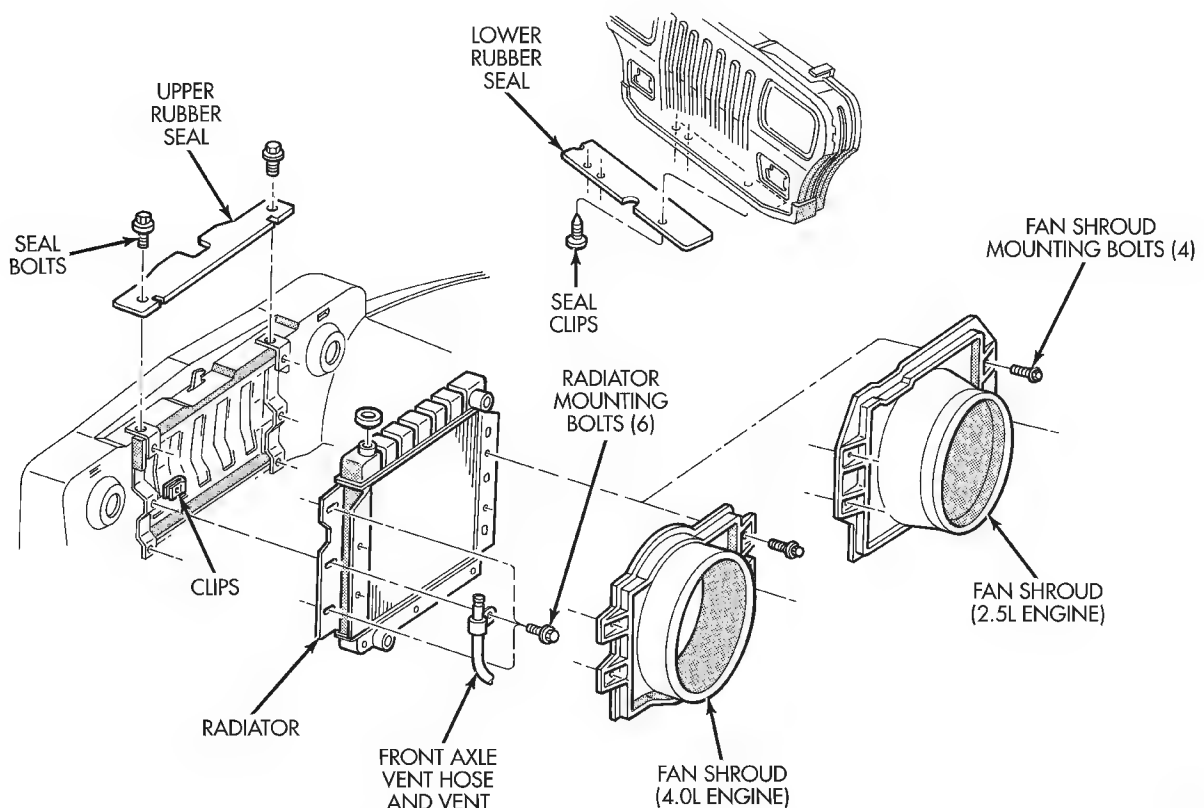

Fig. 35 Radiator—Remove/Install—YJ Models
- (5) Disconnect coolant reserve/overflow tank hose from radiator.
- (6) Remove the four fan shroud mounting bolts (Fig. 35). On some models the power steering fluid reservoir tank is attached to the side of the fan shroud. Tie the reservoir back to prevent spillage. Position the fan shroud back over the fan blades.
- (7) If equipped, disconnect and plug automatic transmission fluid cooler lines.
- (8) Remove six radiator mounting bolts. Position the front axle vent hose (Fig. 35) to the side.
- (9) Lift radiator straight up and out of vehicle taking care not to damage radiator fins.
When removing radiator, note position of the rubber seals located on the top and bottom of radiator (figure 35 on certain models only). To prevent possible overheating, these seals must be installed to their original positions.
- (1) Position the radiator. Install and tighten the six mounting bolts (Fig. 35) to 8 N·m (72 in. lbs.) torque.
- (2) Close radiator draincock.
- (3) Position fan shroud and power steering reservoir tank (if equipped). Install and tighten four mounting bolts to 8 N·m (72 in. lbs.) torque.
- (4) If equipped, remove plugs and connect automatic transmission fluid cooler lines.
- (5) Connect radiator hoses and install hose clamps.
- (6) Connect negative battery cable.
- (7) Fill cooling system with correct coolant. Refer to the Coolant section of this group.
- (8) Connect reserve/overflow tank hose.
- (9) Install radiator cap.